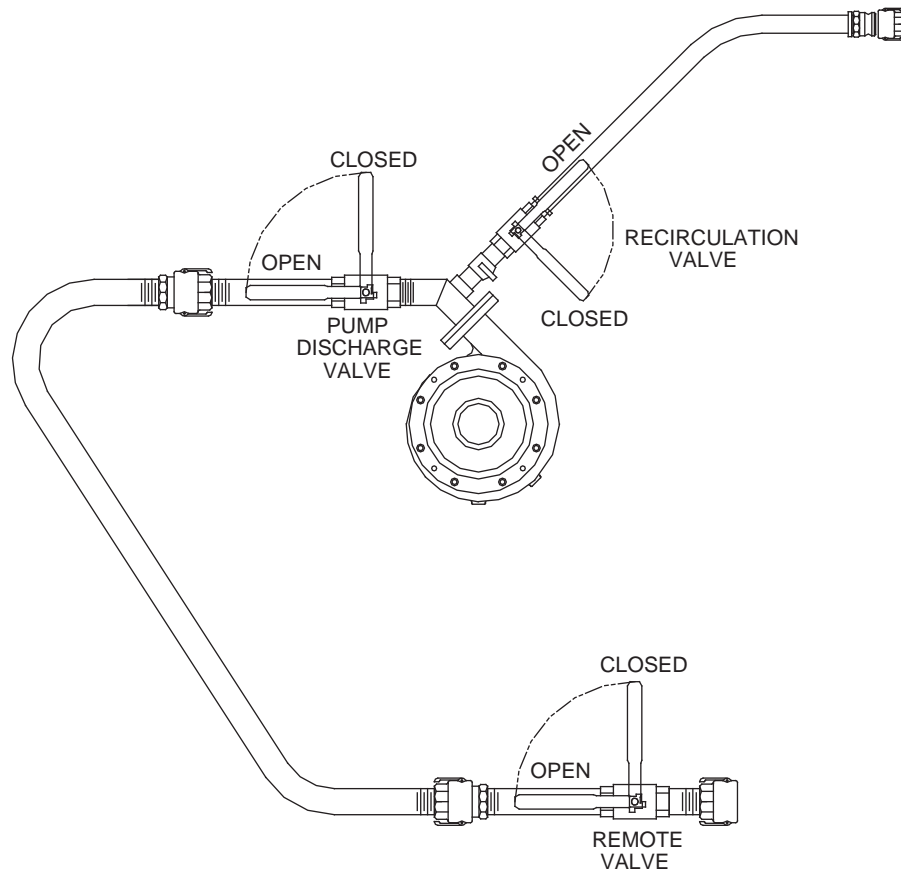

Figure 2 – Valve Operation
1. Discharge hoses: Discharge hoses are available in 50 ft. (15 m) and 100 ft. (30 m) lengths, up to a total of 150 ft. (45 m). Hoses of a greater length may adversely affect the discharge distance and the discharge time of the HydroSeeder®. All connections are camlock quick-operating fittings, including the connection to the end of the discharge piping. A nozzle is connected to the remote discharge valve which is connected to the working end of the discharge hose. Once everything is connected, the HydroSeeder® is ready to operate. Flow through the hose and nozzle is controlled by the operation of the remote discharge valve. When using this valve, the recirculation valve on the HydroSeeder® MUST BE OPEN to allow excess material flow back into the tank when the remote valve is closed (see VALVE OPERATION section and Figure 2).
The HydroSeeder® is equipped with three independently operated ball valves to control slurry flow (Figure 2). The first valve is the recirculation valve. An open recirculation valve allows excess material flow back into the tank. The second valve is the pump discharge valve. An open pump discharge valve allows slurry to flow through the discharge hose. The third valve, located at the end of the discharge hose, is the remote valve. An open remote valve allows discharge of the slurry onto the area being covered.